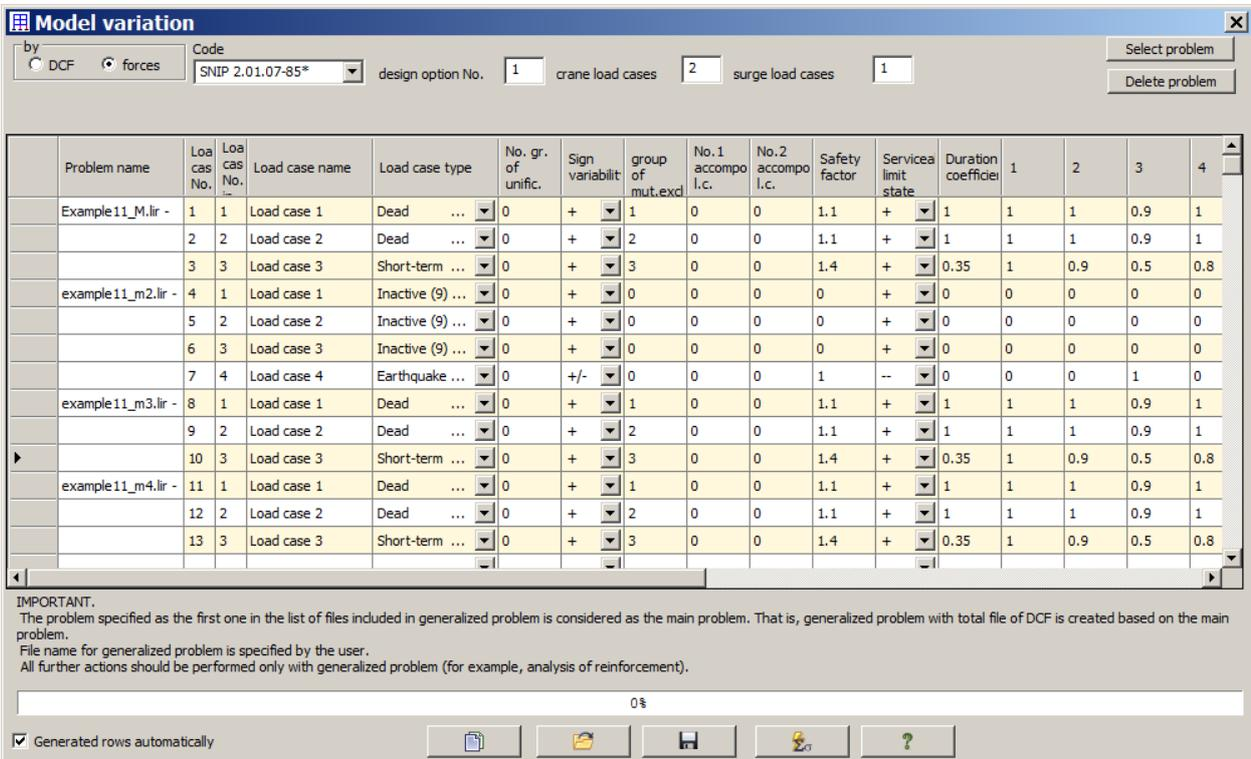

Figure 11.29 Model variation (METEOR) dialog box
Data for integrated DCF problem is generated in the **Model variation (METEOR)** dialog box (see Fig.11.29). To open this dialog box, in the initial mode of the program, on the **Analysis** ribbon tab, on the
- ⇒ To generate the list (set) of topologically identical design models, in the **Model variation (METEOR)** dialog box (see Fig.11.29), click **Select problem** button.